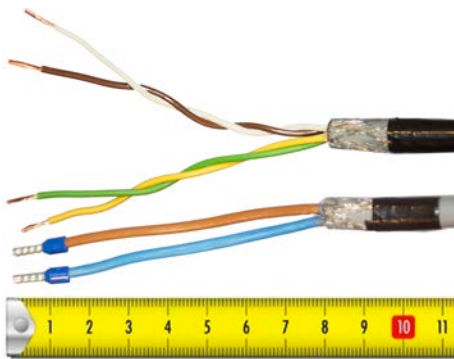

Figure 6: Cable Preparation Sending Cable Sides
4. Attach the remaining visible grounding shield to the metal saddle on the rear of the instrument. See *Figure 6: Cable Preparation Sending Cable Sides* on page 14.